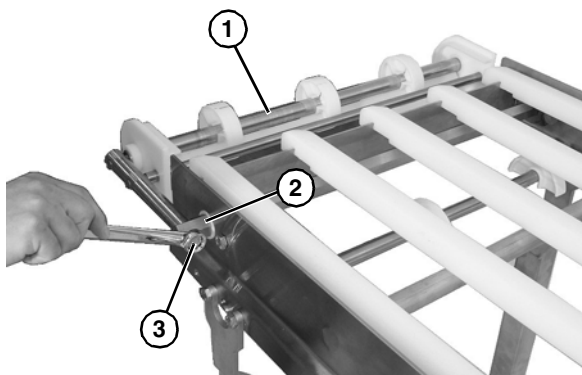

Figure 25
1. Place the idler tail assembly (**Figure 25, item 1**) against the holes in the tip up hex shaft assembly (**Figure 25, item 2**) and secure with a bolt (**Figure 25, item 3**) on each side.